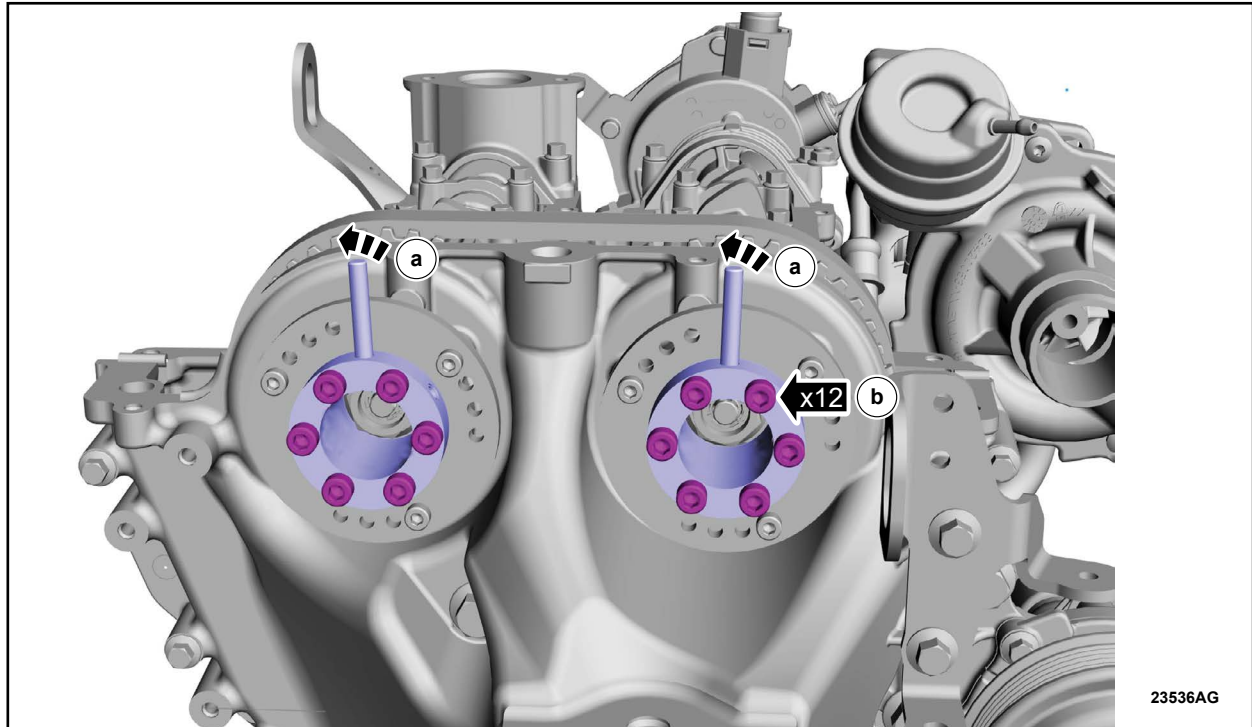

FIGURE 37
44. Lock down the Variable Camshaft Timing Locking Tool: Special Service Tool 303-1606. See Figure 37.